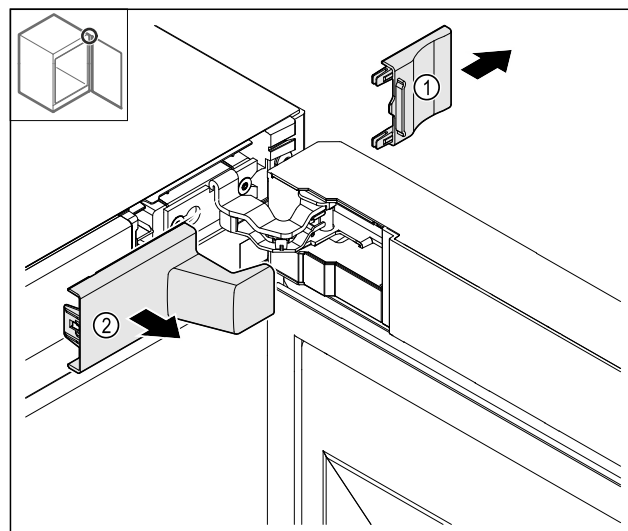

Fig. 13
- Lift off the cover Fig. 13 (1) and then remove Fig. 13 (2).